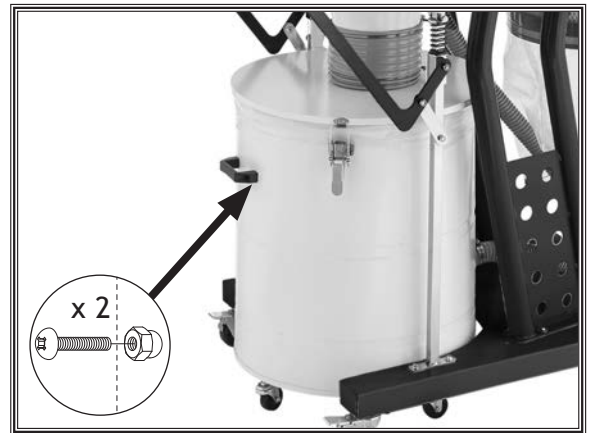

Figure 21. Collection drum handle attached.
20. Attach handle to collection drum using (2) 1/4"-20 x 5/8" Phillips head screws and (2) 1/4"-20 acorn nuts (see Figure 21).